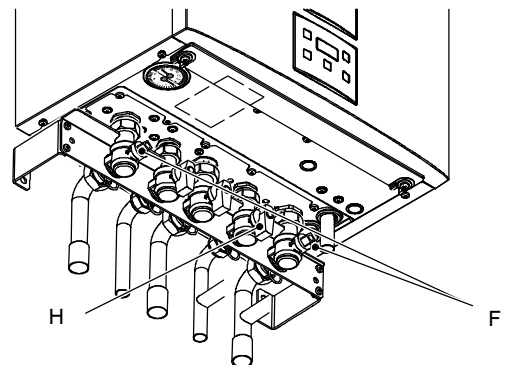

Fig. 2.9 – bottom view of the boiler
- 1 Close the c.h. circuit flow and return cocks *F*. (Fig. 2.9).
- 5 Close the d.c.w. inlet cock *H* (Fig. 2.9).